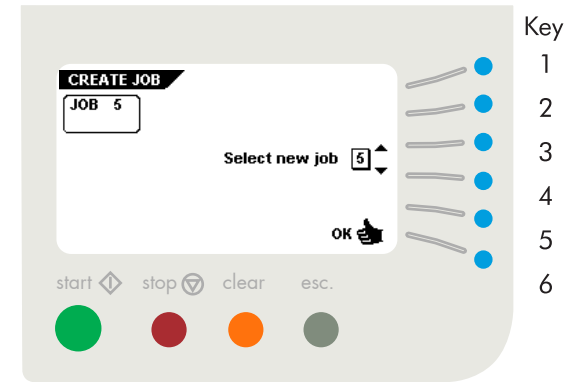

Fig. 30
After pressing key 2 in the "job menu" the display will show the "create job" menu as shown in Fig. 30. If all jobs are programmed the display shows "No more free jobs".